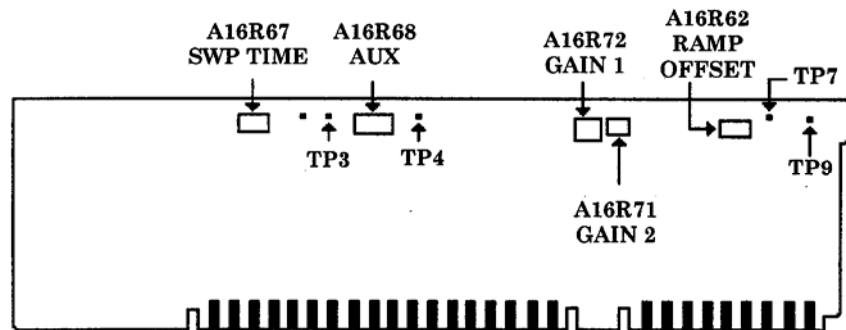
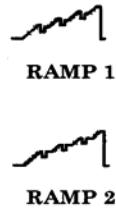
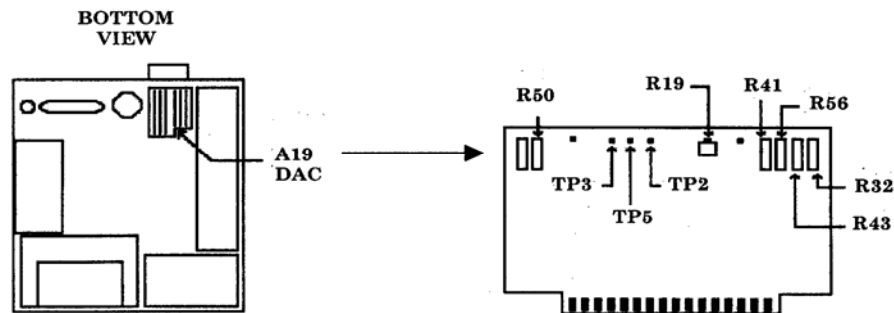
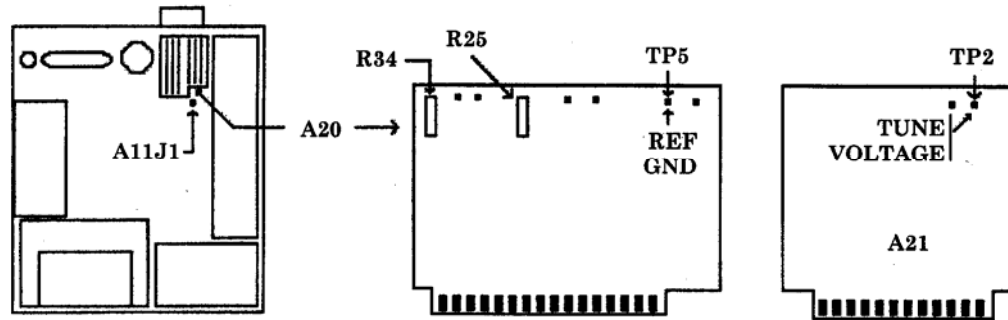

Figure 3. A16 board.
Figure 5. Ramps.
Figure 6. A19 board.
Figure 7. A20 board.
(1) Disconnect TI **RF INPUT** from signal generator No. 3 **RF OUTPUT**.
- (2) Set TI **LINE** switch to **STANDBY**.
- (3) Position TI on its right side.
- (4) Remove TI bottom cover.
- (5) Remove cover over A12 through A16 pc boards.
- (6) Jumper A12TP2 to A12TP3 (lock indicator disable).
- (7) Set TI **LINE** switch to **ON**.
- (8) Press **0 – 2.5 GHz, SWEEP TIME, 500, mS**.
- (9) Connect oscilloscope **Vertical 1** input to TI A16TP3 (fig. 3).
- (10) Connect TI **SWEEP + TUNE OUT** (rear panel) to oscilloscope **Vertical 2** input.
- (13) Disconnect oscilloscope from A16TP3 (fig. 3).
(15) Adjust A16R68 AUX (fig. 3) to align the dc level of the rest time between each ramp with the upper dc level of each ramp. Refer to RAMP 2 (fig. 5).
- (16) Disconnect oscilloscope from A16TP4 (fig. 3).
- (17) Connect multimeter **HI** to A16TP9 and **LO** to A16TP7 (fig. 3).
- (18) Press TI **SWEEP SINGLE** key.
- (19) Adjust A16R62 RAMP OFFSET (fig. 3) for a multimeter indication as close to 0.000 V dc as possible.
- (20) Repeat steps (18) and (19) until requirement is met.
- (21) Press TI keys as listed in (a) through (g) below:
- (22) Connect multimeter **HI** to A19TP2 and **LO** to A19TP3 (fig. 6).
- (23) Press TI **RECALL, 1**.
- (24) Press TI **RECALL, 2**.
- (25) Repeat (23) and (24) above while monitoring multimeter.
- (26) The difference in multimeter indications for **RECALL, 1** and **RECALL, 2** should be  $< 1$  mV dc. Multimeter indications will be approximately  $-8$  V dc.
- (27) If necessary, adjust A19R19 (fig. 6) while alternating between **RECALL, 1** and **RECALL, 2** so that the difference in multimeter indications is  $< 1$  mV dc (R).
- (28) Press TI keys as listed in (a) and (b) below:
- (29) Press TI **RECALL, 1** keys.
- (30) Press TI **RECALL, 3** keys.
- (30) Repeat (29) and (30) above while monitoring multimeter.
- (31) The difference in multimeter indications for **RECALL, 1** and **RECALL, 3** should be  $< 3$  mV dc.
- (32) If necessary, adjust A19R41 (fig. 6) while alternating between **RECALL, 1** and **RECALL, 3** so that the difference in multimeter indications is  $< 3$  mV dc (R).